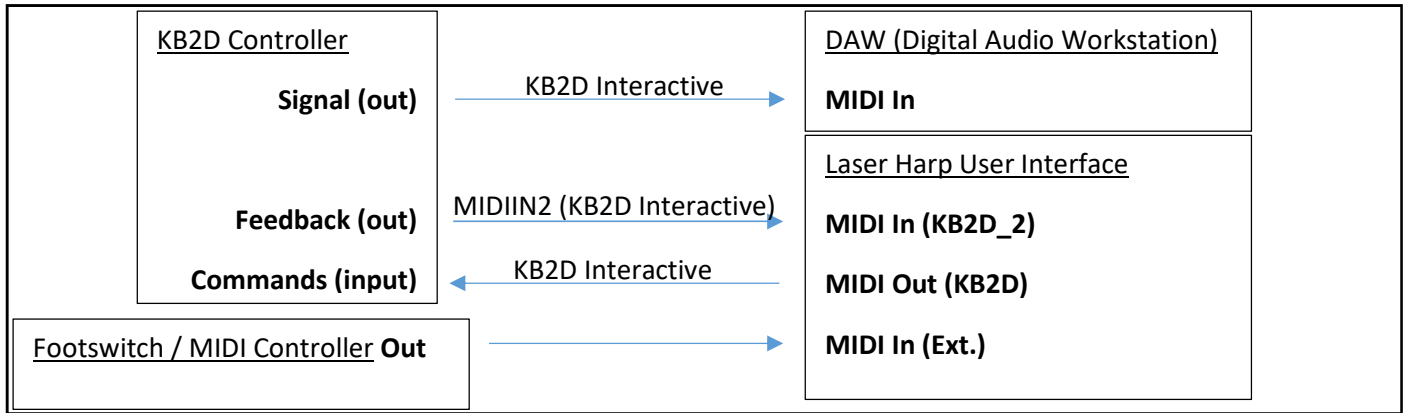

Fig. 2: Recommended MIDI Mapping
- 3- Start the KB2D user interface. If the KB2D is connected, the correct MIDI port are automatically set: **MIDIIN2 (KB2D Interactive)** as input port and **KB2D Interactive** as Output Port, as shown on Fig. 2. If this is not the case (or if the manual selection returns an error), the port may be used by another software. Once the correct ports have been set, the interface will display all the parameters saved inside the KB2D.